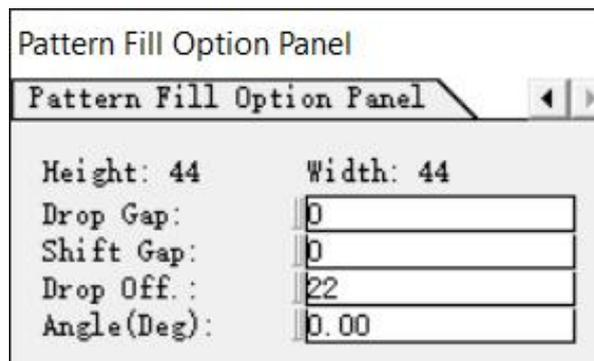

Figure 4-122
3. Select Pattern Half-Drop Rotating Fill, the height and width of the filling pattern are displayed in the Pattern Fill Option Panel, and the desired setting can be achieved by setting "Drop Gap", "Shift Gap", "Drop Off", and "Angle(Deg)" Effect. (Figure 4-122)